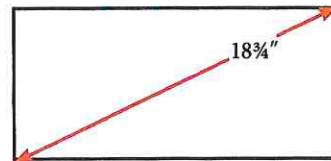

Figure 3-2: Maximum rectangular duct perimeter of 50"
The 1L Nozzle (P/N NL1L) is a one (1) flow nozzle. A single 1L nozzle is capable of protecting square or rectangular ducts with a maximum perimeter of 50" (maximum side of 16¾", with the diagonal being a maximum of 18¾"). It can also protect a round duct with a maximum diameter of 16". See Figures 3-2 & 3-3.